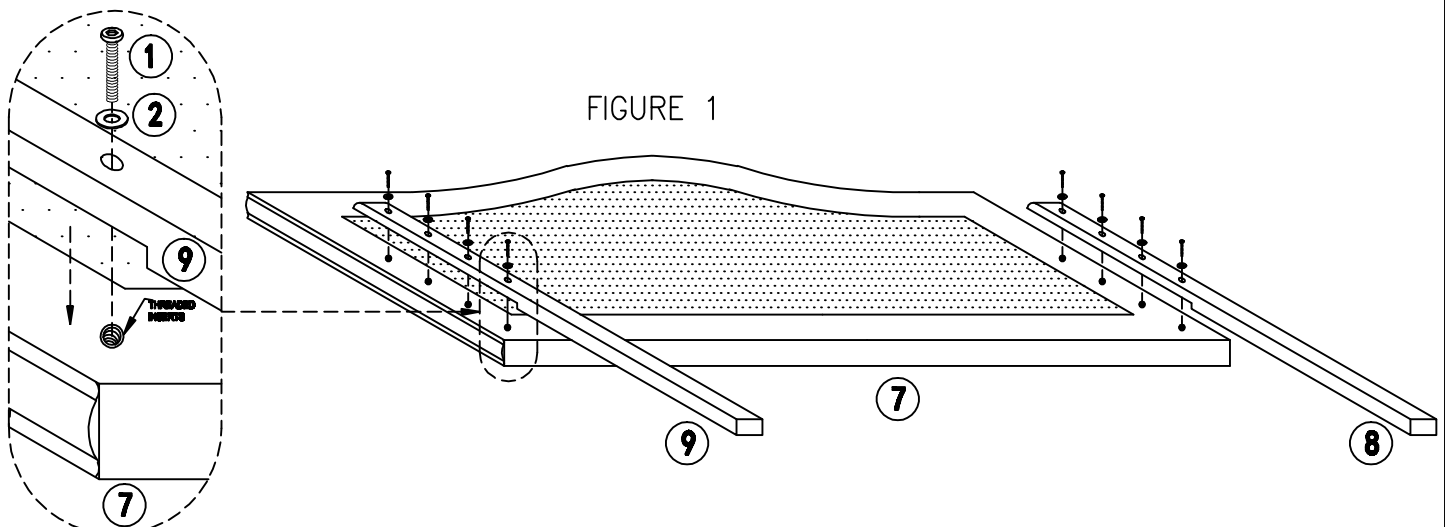

FIGURE 1
- Place headboard panel (7) upside down on a flat and clean surface.
- Align pilot holes on left headboard post (8) and right headboard post (9) with threaded insert on headboard panel (7). SEE FIGURE 1
- Secure headboard post (8 & 9) with screw (1) and flat metal washer (2). Use Allen wrench (6)